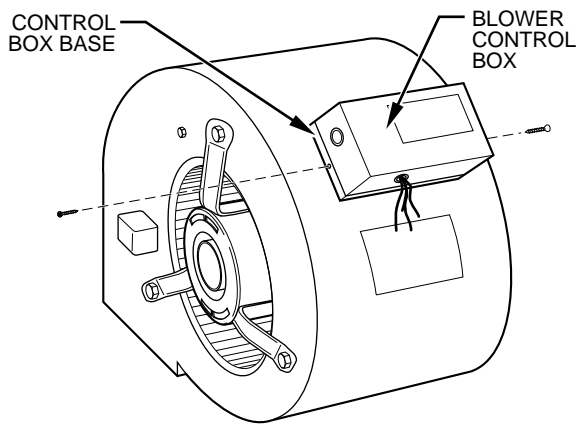

Fig. 13—Attaching Control Box to Control Box Base (3400/3400A Furnaces)
2. Insert control box onto base aligning 2 holes in sides of control box and base. (See Fig. 13 or 14.)
3. Secure control box to base with 2 screws provided in loose parts bag. (See Fig. 13 or 14.)